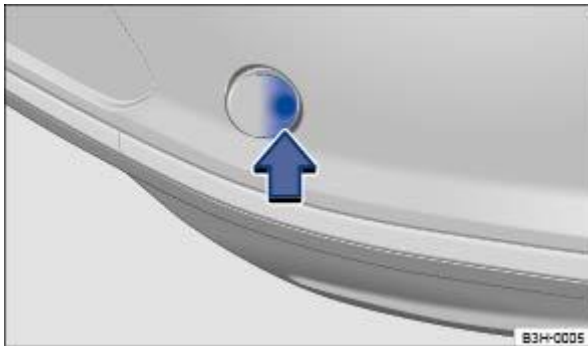
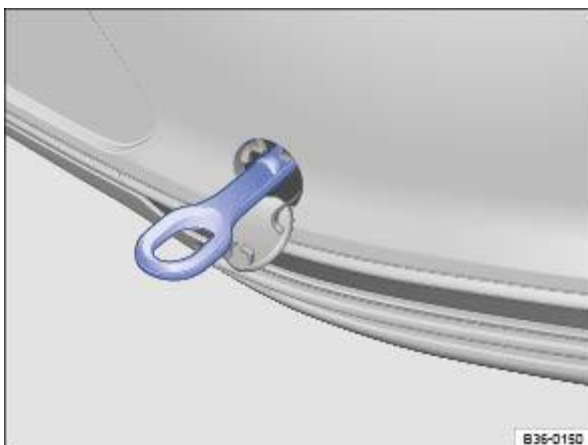

Fig. 178 On the right-hand side of the rear bumper: removing the cover.
Fig. 179 On the right-hand side of the rear bumper: screwed-in towing eye.
- ② Remove the towing eye from the vehicle toolkit in the luggage compartment ⇒ Vehicle toolkit .
- ② Push the lower area of the cover ⇒ Fig. 178 in the direction of the arrow to release the cover.
- ② Remove the cover and leave it hanging from the vehicle.
- ② Turn the towing eye clockwise into the mounting ⇒ Fig. 179 and tighten as far as it will go ⇒  . Use a suitable object to screw the towing eye fully and securely into the mounting.
- ② After you have finished towing, remove the towing eye by unscrewing it with a suitable object clockwise.
- ② After you have finished towing, remove the towing eye by unscrewing it anti-clockwise.
- ② Insert the cap in the respective recess and press in until it engages.
- ② Clean the towing eye if necessary and place it back in the vehicle toolkit in the luggage compartment.